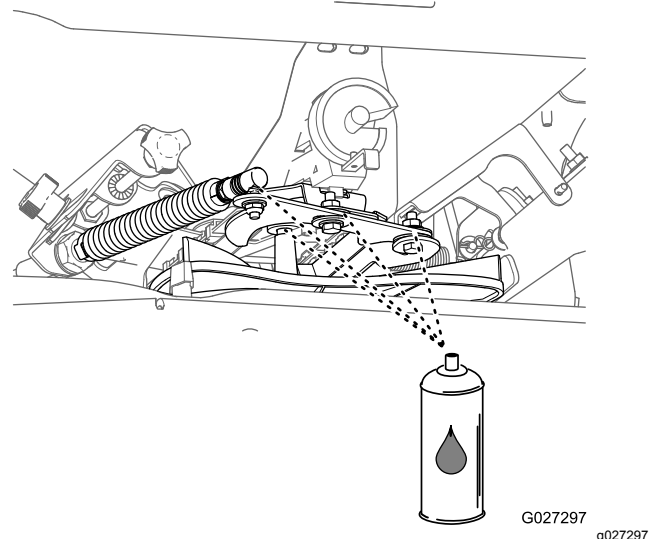

Figure 49
9. Apply water-displacing lubricant to the components as shown in Figure 49.